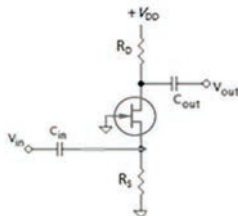

Figure 8.19 Ch 8: No. 12, self-test
12. For the JFET CG amplifier of Figure 8.19, determine the input and output resistance R_{in} , R_{out} , and voltage gain A_V , if R_S is 6 k Ω , R_D is 5 k Ω , R_L is 18 k Ω , and g_m is 4 ms.